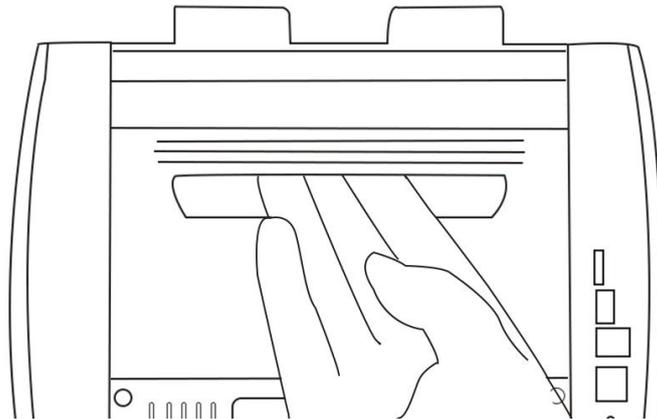

Figure 84
1) Pull the back cover to open the machine channel as shown in Figure 84 below.